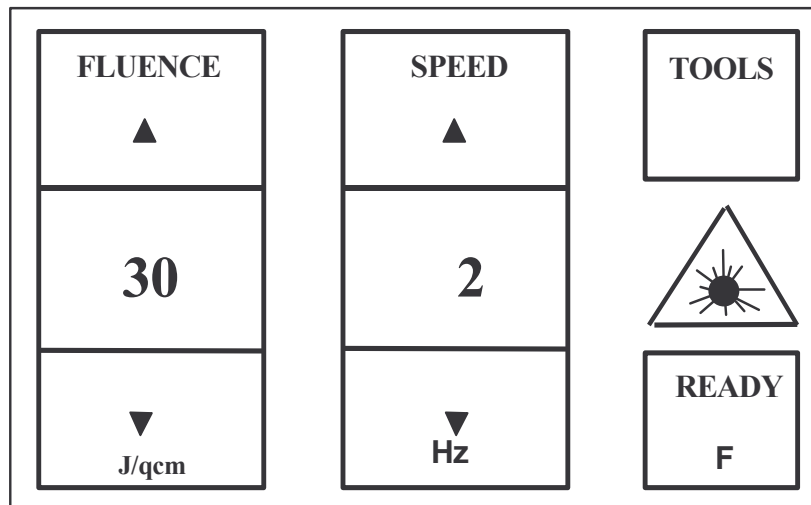

Fig. 6: Display (Laser READY)
- After the spot size has briefly flashed on the display, the laser warning sign appears above the READY field (refer to Fig 6).